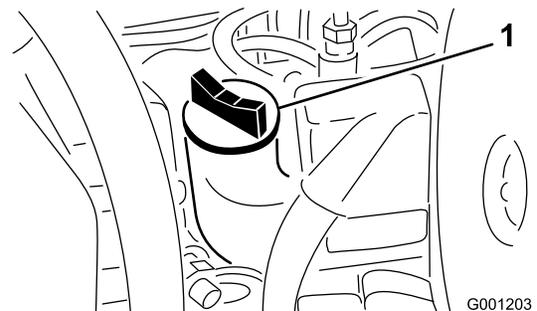

Figure 48
4. If the oil level is below the Full mark, remove the fill cap (Figure 48) and add oil until the level reaches the Full mark on the dipstick. **Do not overfill.**